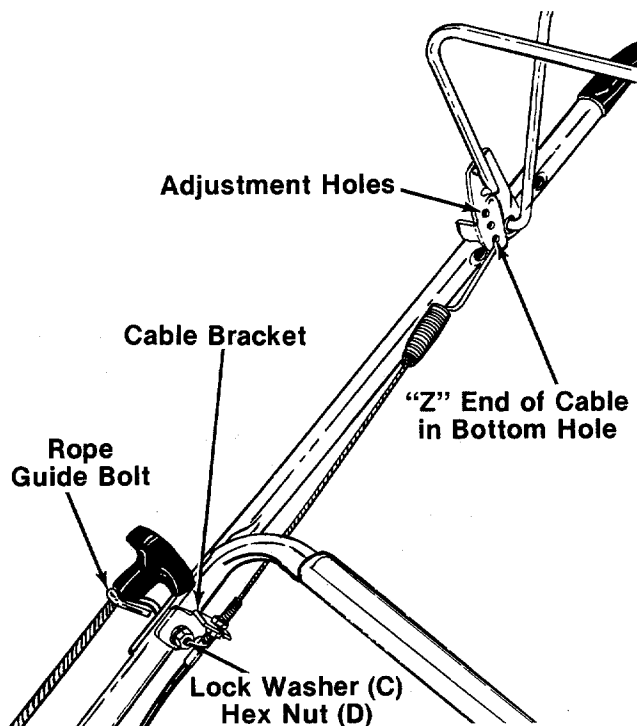

FIGURE 6.
- Route the clutch cable under the lower handle. Hook the "Z" end of the clutch cable into the bottom adjustment hole in the clutch control handle. See figure 6.
- Place the clutch cable bracket on the rope guide bolt. See figure 6. Secure with lock washer (C) and hex nut (D).
If additional adjustment is needed, unhook the cable from the clutch handle and move it to the next higher adjustment hole provided. Refer to figure 6. Then readjust the hex nuts at the cable bracket.